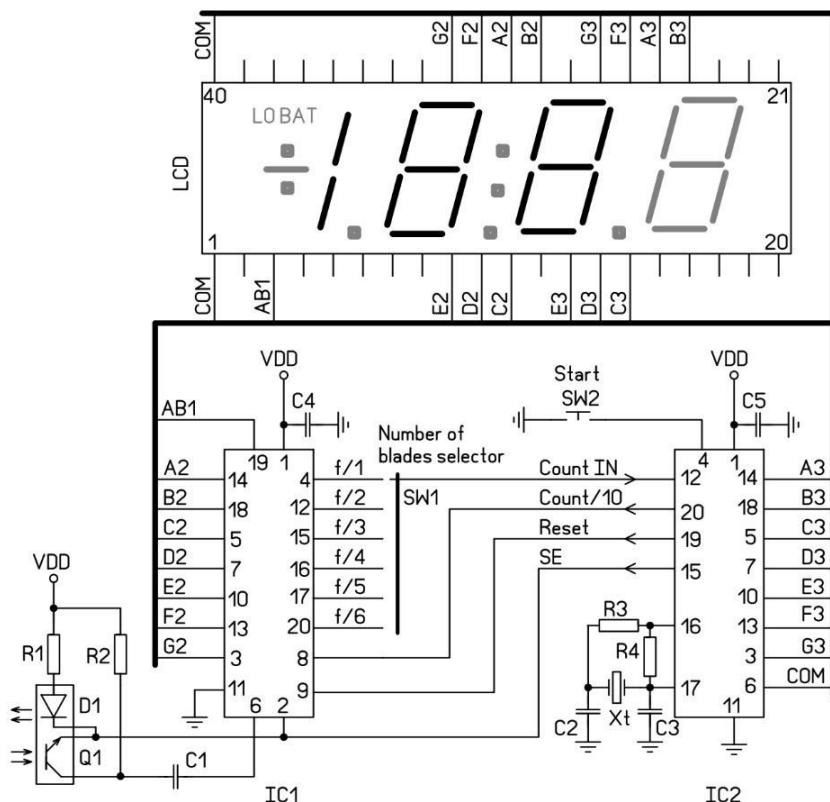

Figure 1. GreenPAK RPS Counter Schematic Diagram
- Counting phase. Icc depends on IR sensor emitter and is set to 20 mA. However, Icc can be reduced by increasing resistance of R1 (see Figure 1), but this will also reduce sensor sensitivity. Counting phase lasts for 1 second after power on or after pressing button “Start”.
To build the RPS counter, two GreenPAK ICs are needed. The SLG46533 was chosen because of the great variety of internal blocks. For full schematic diagram and BOM refer to Figure 1 and Table 1 respectively.